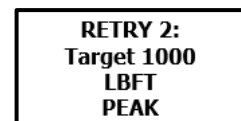

Figure 4.5-5: Redo Cycle
6. Press the corresponding keypad button below the "Y" for "yes" to allow the same Bolt ID to be used for the next torque cycle. Another record will be appended to the log file for the next torque cycle. The "Retry" is the number of times the bolt has been retried and the "Target" is the target torque as seen earlier. The screen will look like Figure 4.5-5 for example.